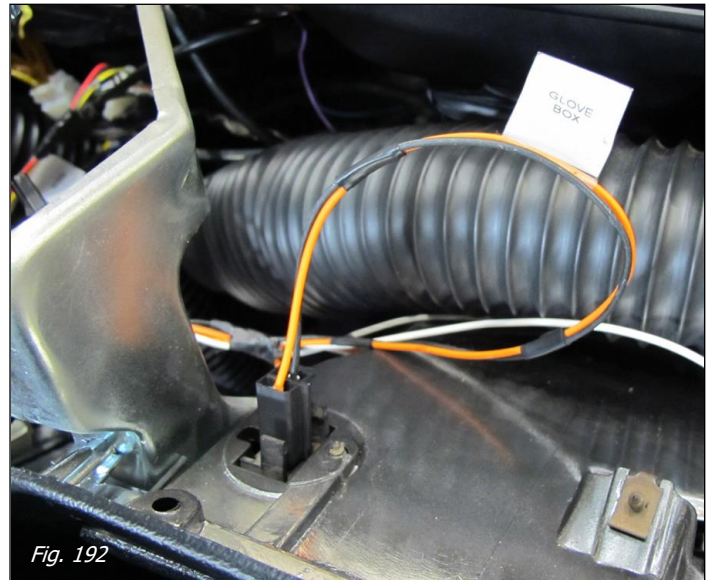

Fig. 192
- Route this connection to the top of the glove box and connect; it does not matter which way the connector goes on (see Fig. 192).